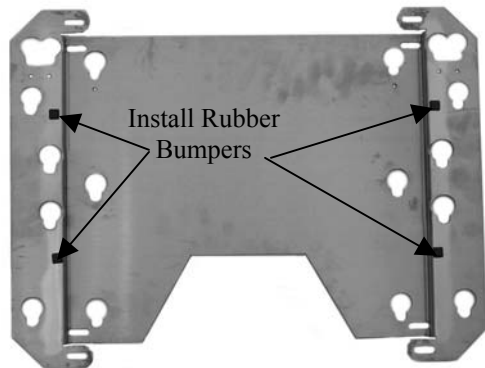

Figure 12
4. Install four rubber bumpers as shown in Figure 12.